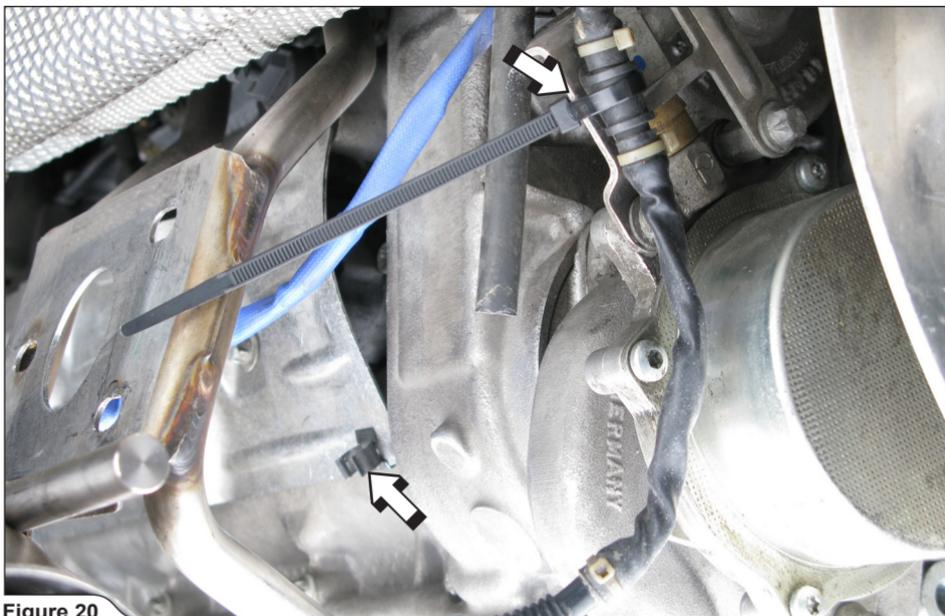

Figure 20
2. **For Evolution and Evolution-Race (left side of the vehicle):** attach the lambda sensor's black electrical lead with a plastic tie and displace the blue electrical lead's bracket as shown (Figure 20). Cut away excess of the tie.